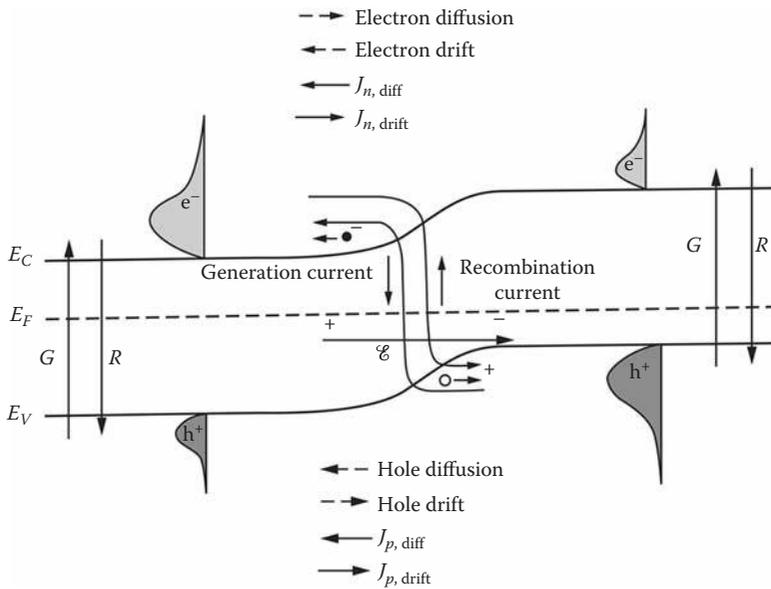

FIGURE 8.9 Carrier action inside the *pn* junction at equilibrium. The *net* current flow is zero.
The Fermi level E_F is now flat through the device, and there is band-bending from side-to-side, yielding a "built-in" electric field and hence potential drop inside the junction of ϕ_{bi} . Make sense? Good. Be careful, though. I have been deliberate in saying the NET current flow is identically zero in equilibrium. This does NOT mean no carrier motion occurs in equilibrium. As illustrated in Figure 8.9, generation and recombination of electrons and holes can and is still taking place, but the NET current flow side-to-side remains zero. Hook an ammeter to it and you measure nothing. So how fast does all this establish-equilibrium-thing happen? REALLY fast (see the "Tick-Tock: Time Scales in pn Junctions" sidebar).
- As can be seen in the energy band diagram (refer to Figure 8.9), there is a potential barrier for any further movement of electrons and holes from *p* region to *n* region, and vice versa. This barrier to charge transport keeps the net current zero, the Fermi level flat, and the junction in equilibrium.